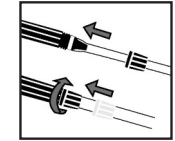

Fig. 1
- Firstly connect one end of the hose to the spray lance (Fig.1).
- Connect the other end of the hose to the spraying tank (Fig.1).